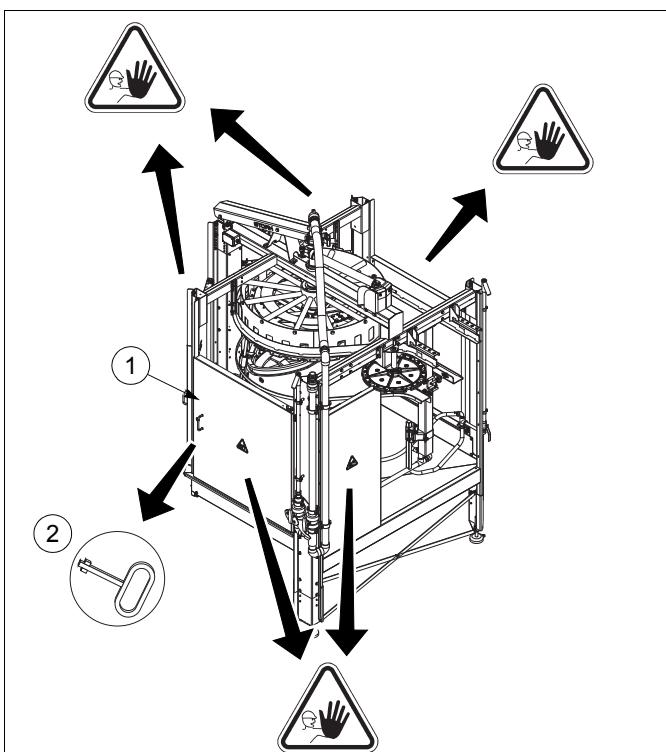

fig. 8 Safety provisions
- Doors 1 (4x). See fig. 8.
See fig. 8.
You will find safety labels on the machine as shown in fig. 8.